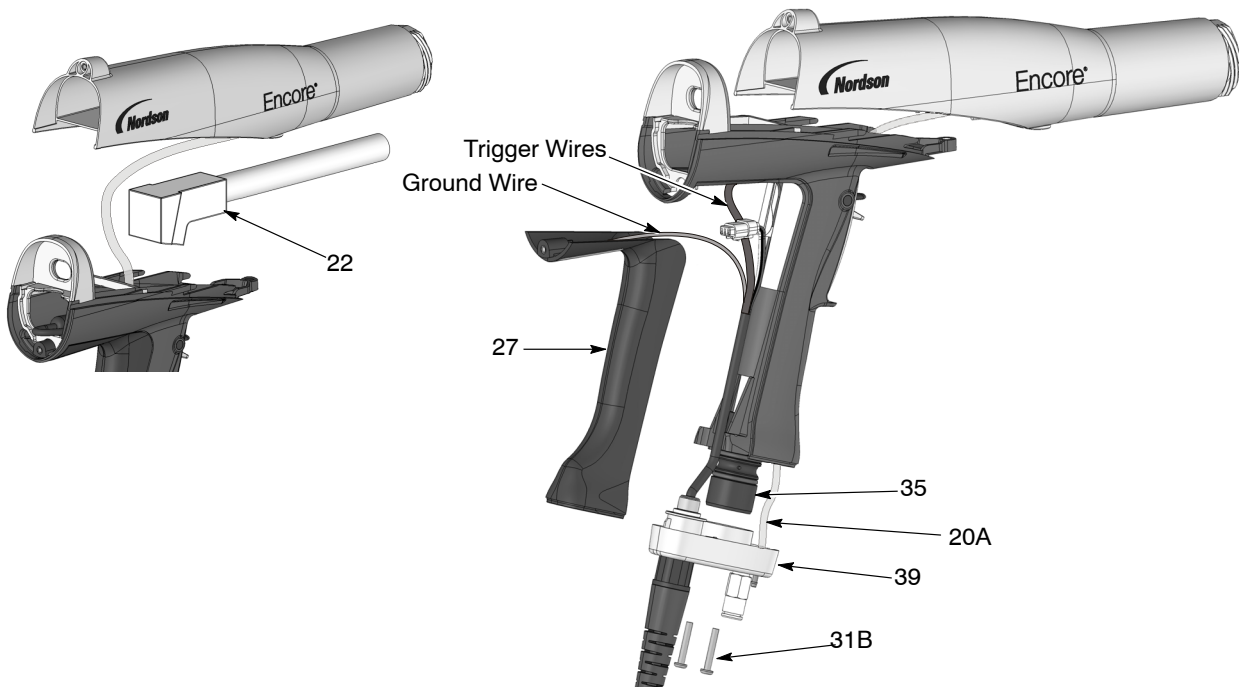

Figure 6-4 Removing the Powder Path from the Spray Gun
1. See Figure 6-4. Remove the outlet tube (22) from the inlet tube. The elbow portion of the outlet tube is held onto the inlet tube with a tight O-ring fit; wiggle the elbow back and forth to pull it free.
2. Remove the two M3 x 20 screws (31B) from the handle base (39).
3. Pull the base away from the handle, swing the bottom of the ground pad (27) up and away from the handle, then remove it. Leave the ground wire connected to the ground pad.
1. See Figure 6-4. Install the inlet tube (35) up into the handle.